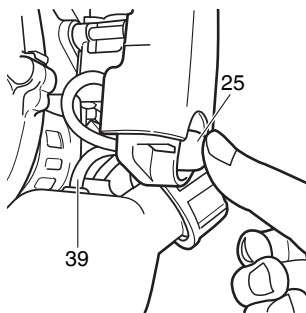

Fig. 23
* Push priming bulb (25) several times so that fuel flows through return pipe (39). (Fig. 23)